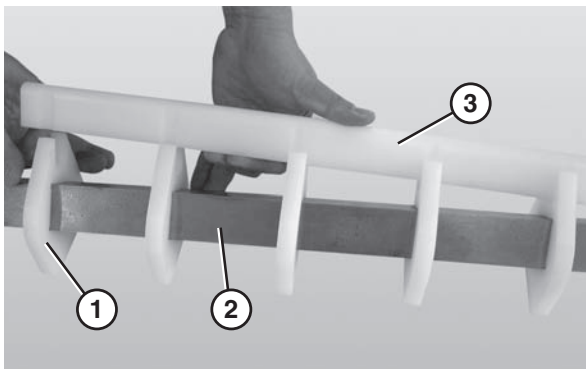

Figure 66
1. Slide the nose bar pucks (**Figure 66, item 1**) onto the nose bar drive post (**Figure 66, item 2**).
2. Attach the nose bar wear strip (**Figure 66, item 3**).